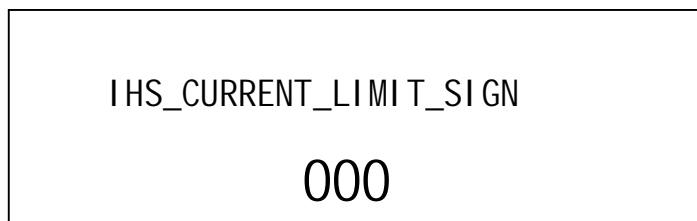

Fig. 24: IHS_CURRENT_LIMIT_SIGN Setup
19). IHS_CURRENT_LIMIT_SIGN: IHS_CURRENT_LIMIT_SIGN setup. Fig. 24